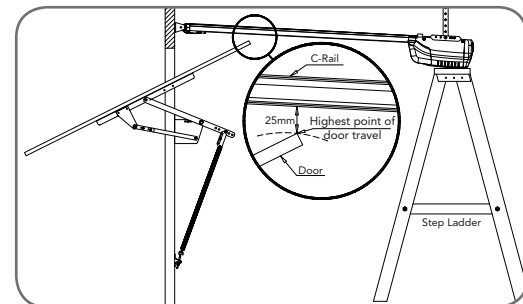

Fig. 18
- Stop the door when it is at its highest point of travel. Allow 25mm additional height for clearance between the door and the track (Fig. 18).